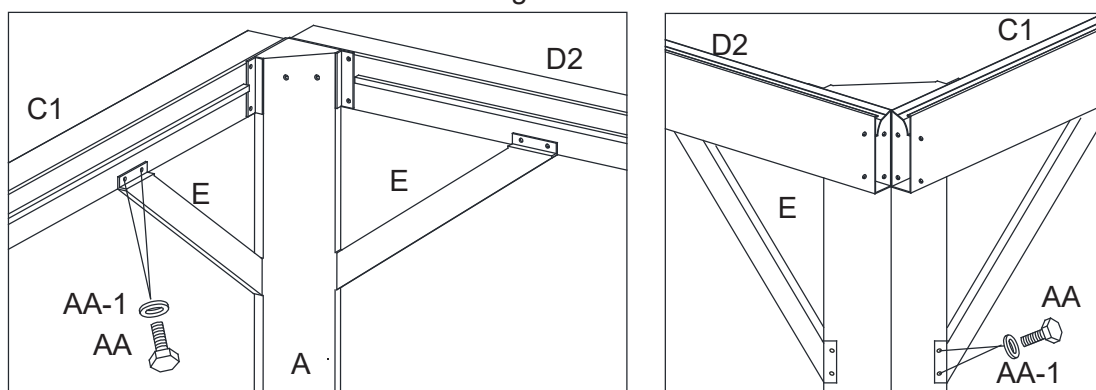

Figure 5-2
5.2. Attach Support Bars (E) to Corner Post (A) and to Lintels (C1/C2) with Bolts (AA) and Steel washer (AA-1). See Figure 5-2.